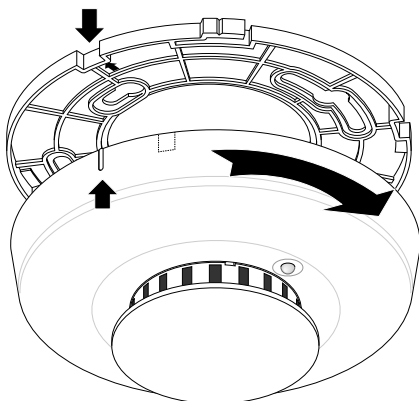

Figure 4- Attaching Detector to Base
- Line up the raised tab on the side of the detector with the arrow on the mounting base. See Figure 4.